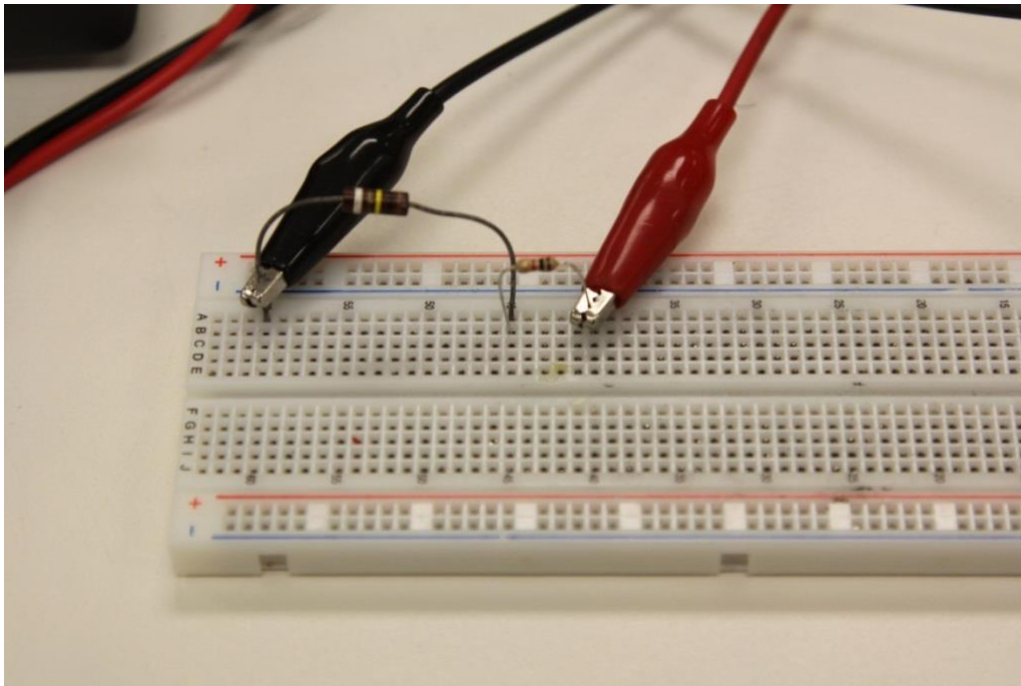

FIGURE 1-2. RESISTORS CONNECTED IN SERIES ON PROTO-BOARD
3. Pick two resistors that are approximately two orders of magnitude different e.g. 22 Ω and 2,200 (See Figures 1-2, 1-3, and 1-4. Do not exceed R_{ref} by a factor of 10)